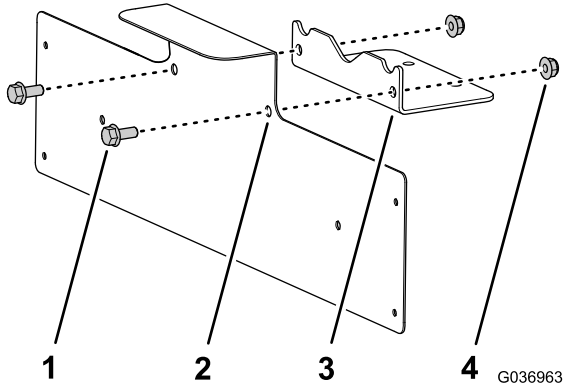

Figure 15
1. Assemble the license-plate bracket to the support bracket with the 2 flange-head bolts (5/16 x 3/4 inch) and 2 flange locknuts (5/16 inch) as shown in Figure 15.